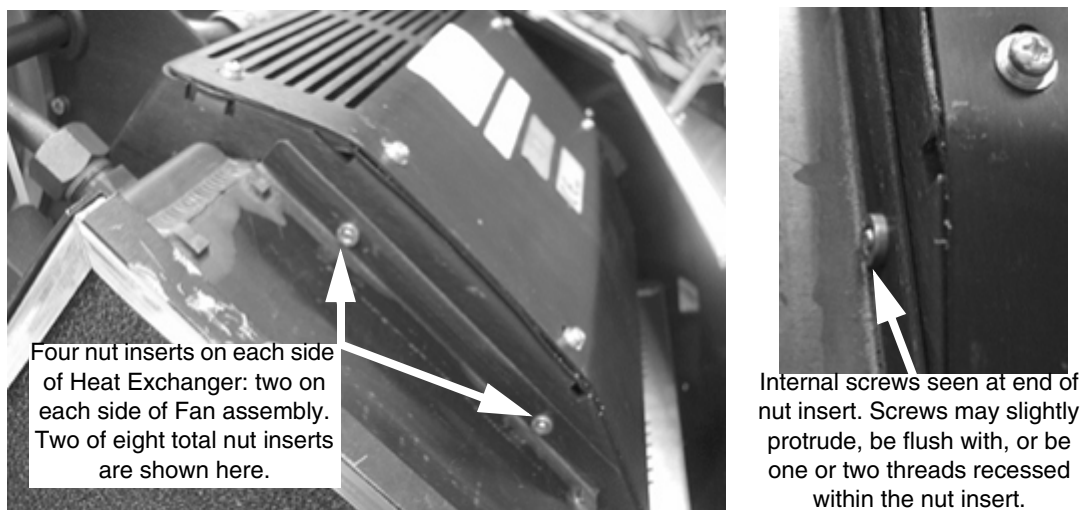

Figure 4 - Two of Eight nut inserts shown (left); screw seen just at end of nut insert (rt)
- 2.) Look at the nut inserts (shown below) on the ends of the Heat Exchanger to verify that the end of the internal screws are seen at the end of the nut inserts as seen in Figure 4. If any of the screws are missing, replace Tube: